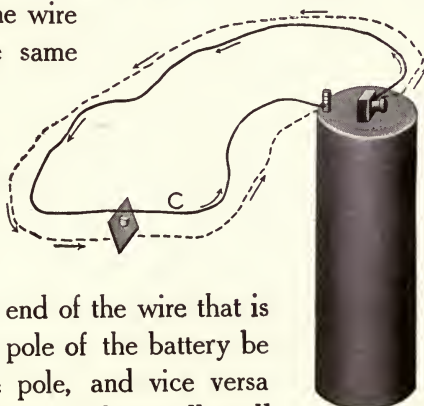

Fig. 4
C. Third, that an electric current is flowing through the wire (Fig. 1, page 91) can be shown by crossing part of the wire over a compass as shown in Fig. 4. Ordinarily, of course, the needle of the compass will point north and south, and the wire above it should run in the same direction. But as soon as the connection with the battery is established the needle will be deflected, so that it will stand at right angles to the wire, or, in other words, point east and west. If the end of the wire that is connected with the positive pole of the battery be transferred to the negative pole, and vice versa (that is, if the “poles be changed”) the *needle will*
4. The needle will also reverse its direction if the wire "C," Fig. 4, be moved from its position above the needle to one below it, as shown by the dotted line. In other words, the direction of the electric current affects the direction in which the magnetic needle is deflected; and also deflects it one way when it passes above the needle and in the opposite way when it passes below it. This fact enables us to very greatly intensify the action of the